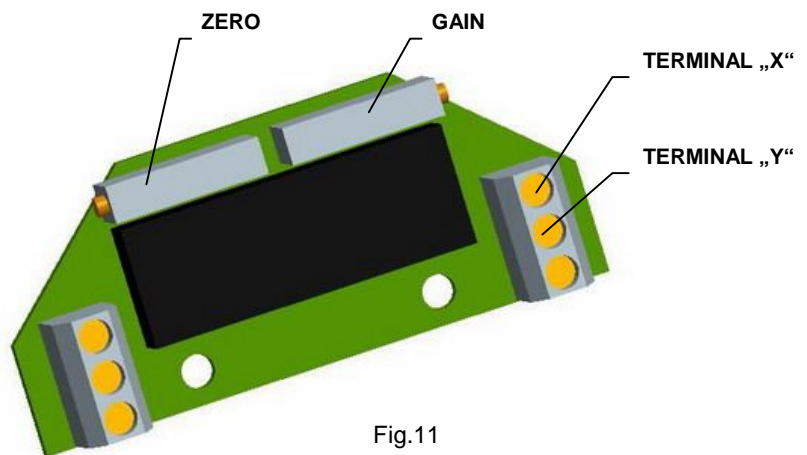

Fig.11
4.6.2 EPV – 3-wire version (Fig. 11)
- Adjust the resistive transmitter according to the previous chapter. The resistance is to be metered on the terminals X-Y (Fig. 11). The used transmitter resistance is 2000 W or 100 Ω.
- Turn the adjusting trimmer ZERO (Fig. 11) to adjust the output current signal rate measured on the terminals 81-82 to 0 mA or 4mA.
- Turn the adjusting trimmer GAIN (Fig. 11) to adjust the output current signal rate measured on the terminals 81-82 to 20mA or 5 mA.